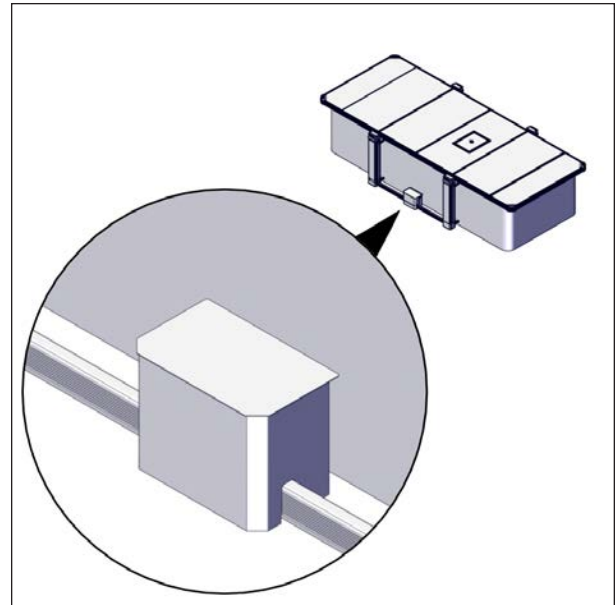

FIGURE 97: CONTROL BOX HOUSING INSTALLATION
6. Slide the control box housing onto the U-frame, see Figure 97.